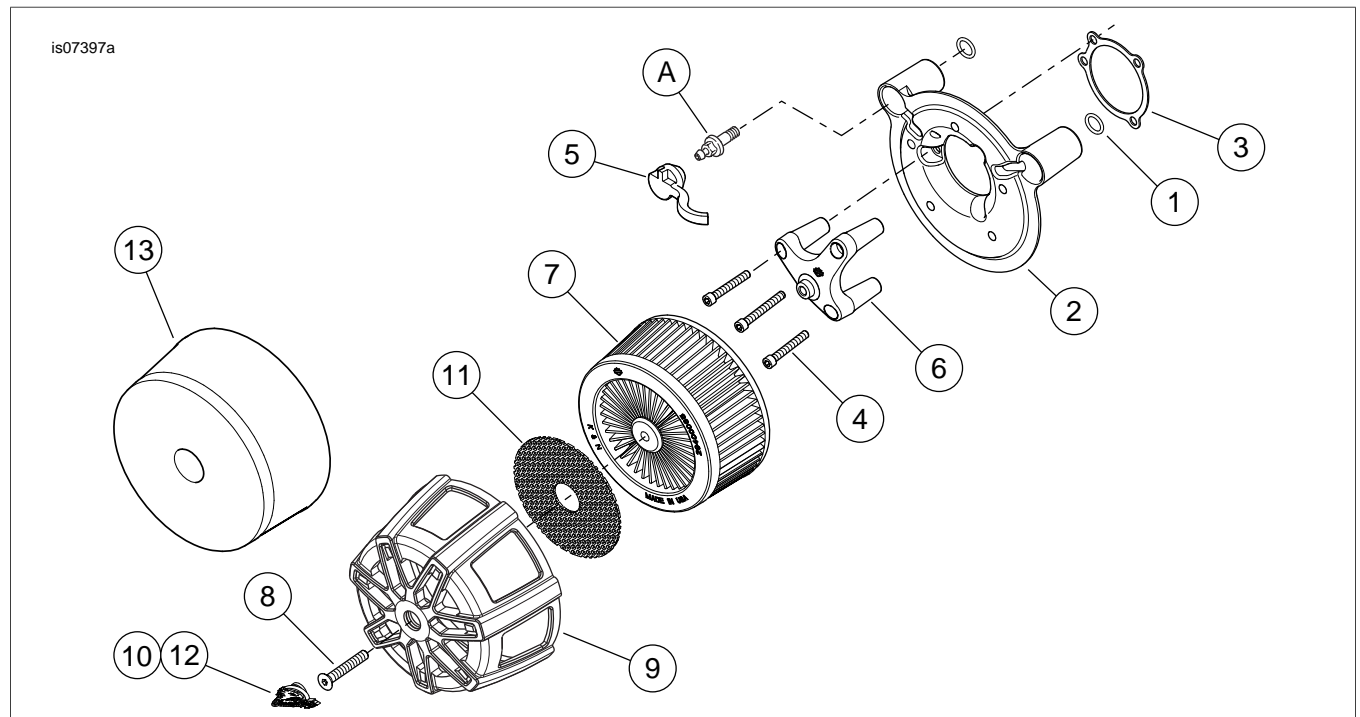

Figure 1. Service Parts, Screamin' Eagle Performance Air Cleaner Kit
See Figure 1 and Table 1.
3. Remove the currently installed air cleaner. Refer to the service manual or the instructions for **THAT** air cleaner. See Figure 1. Save the two breather screws (A) from the backplate. The remaining parts can be recycled or properly disposed of.
1. See Figure 1. Install two O-rings (1) from kit in grooves around breather screw holes on induction module side of backplate assembly (2).
2. Align the holes in the gasket (3) with holes in the backplate, and install on the induction module side of the backplate.
6. Thread air cleaner mounting screws (4) through the mounting bracket (6) and into the backplate (2) until the screw threads are captured in induction module. Do not fully tighten at this time.
7. Alternately tighten two breather screws (5) to 120-144 **in-lbs** (13.6-16.3 Nm).
8. Tighten three air cleaner screws (4) to 55-60 **in-lbs** (6.2-6.8 Nm).
9. Press breather plugs (5) into breather screw cavities, aligning tubes with recesses in backplate.
1. See Figure 1. Install the air cleaner element (7) and cover (9). Before tightening the center screw, align the cover using the medallion for best appearance, then tighten center screw to 36-60 **in-lbs** (4.1-6.8 Nm).